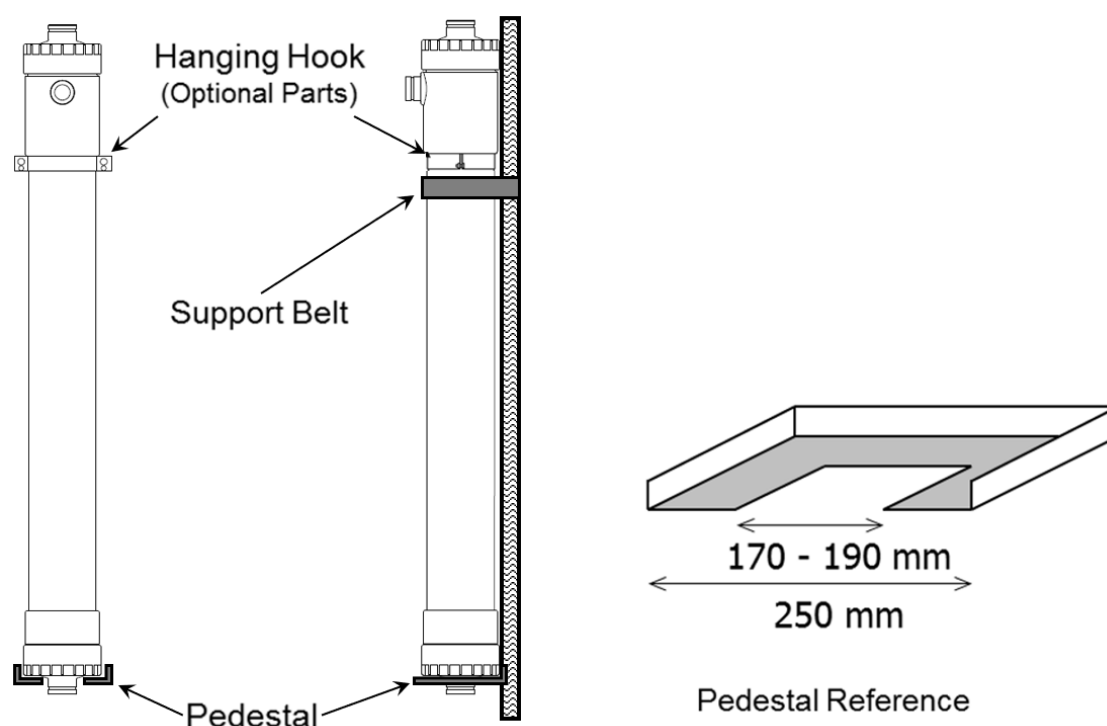

Fig. 2. Typical example of the membrane module installation
4. Put the module vertically on the pedestal in the module rack. Fix the module upright with the hanging hook and/or the supporting belt. (see Fig. 2).